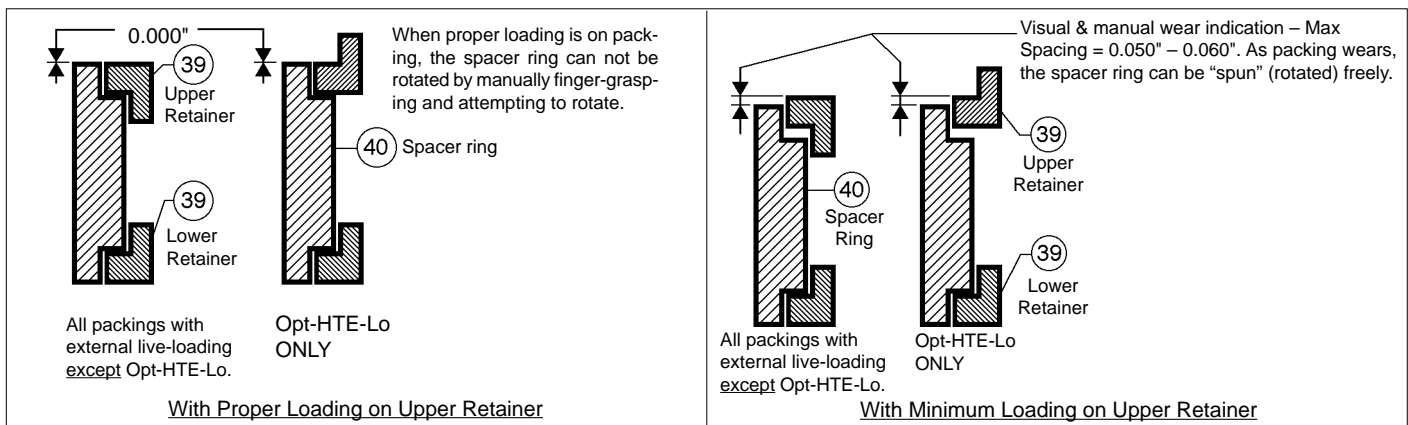

Figure 11: Dimensionals for Proper Packing Load
- a. Ability to "freely spin" the spacer ring (40).
- b. Measure the spacing between the upper retainer (39) and the spacer ring (40) (see Fig. 11).